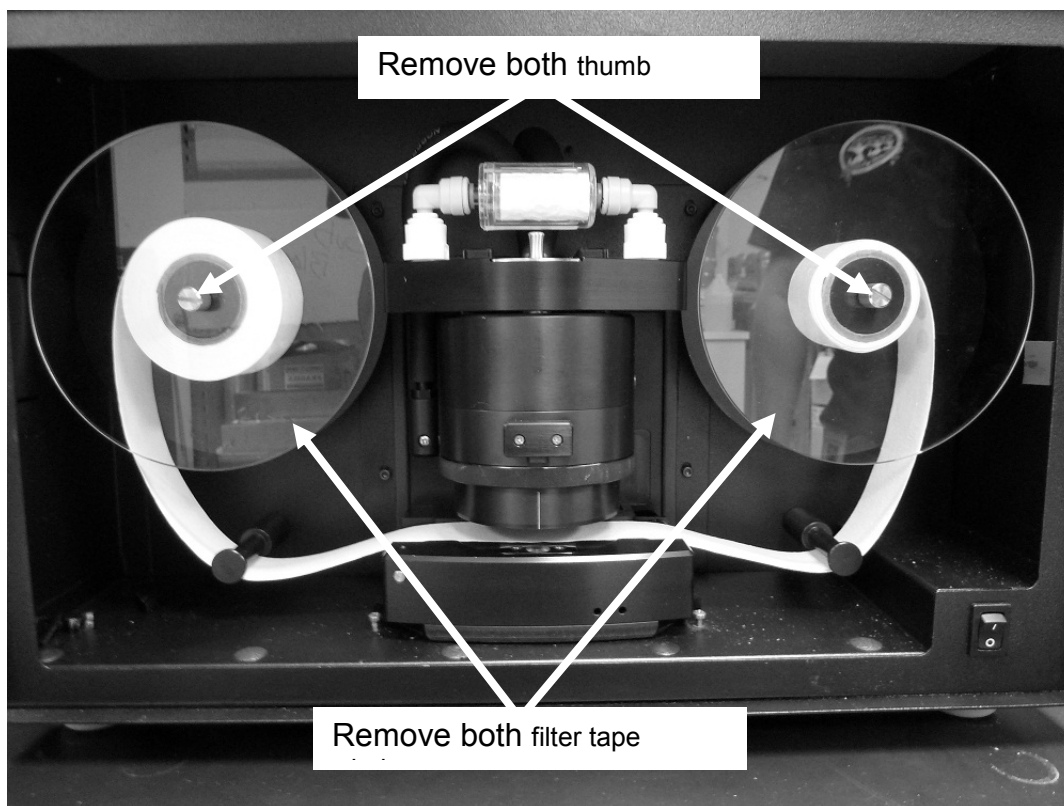

Figure 4
- 5.) Remove both thumb screws that hold the two tape windows in place. Remove both windows. (Figure 4)